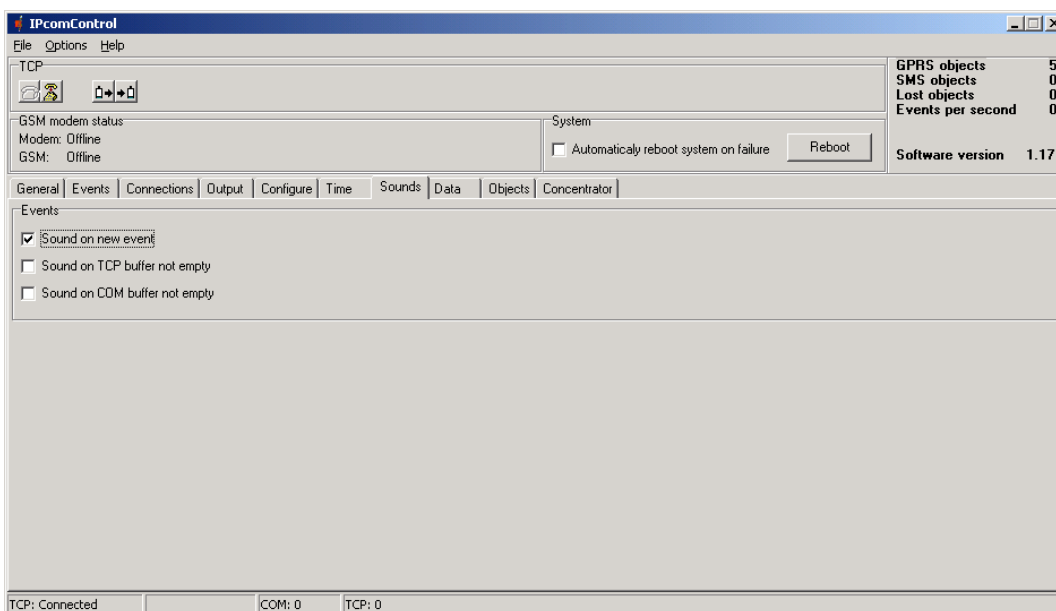

Figure 17.
8.15 In the **Sounds** tab (Fig. 17) sound notification can be set.